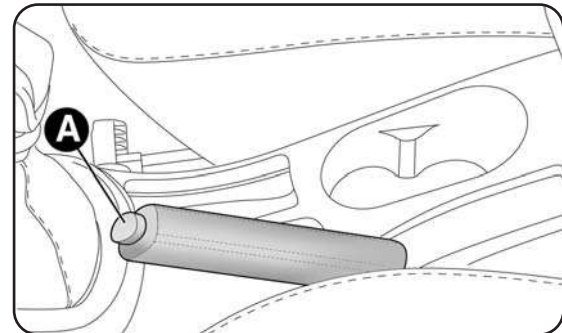

fig. 1
- slightly lift the lever and press release button A - fig. 1;
- keep button A pressed and lower the lever. The (C) warning light on the instrument panel turns off.